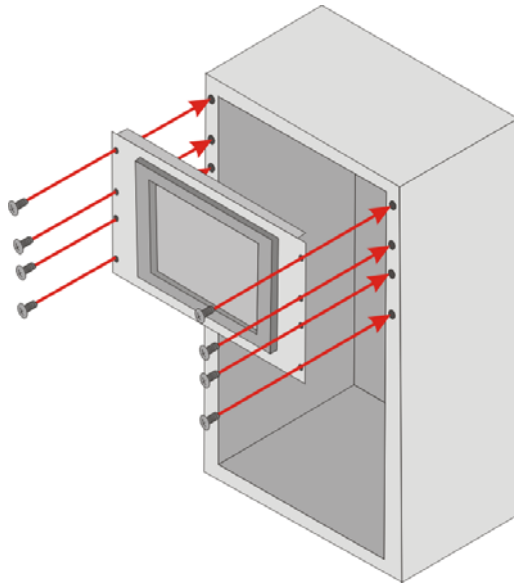

Figure 3-25: Install into a Rack/Cabinet
Step 5: Slide the PPC-F12B/15B/17B-BTi with the attached rack/cabinet bracket into a rack or cabinet (**Figure 3-25**).
Step 6: Once the flat panel PC with the attached rack/cabinet bracket has been properly inserted into the rack or cabinet, secure the front of the rack/cabinet bracket to the front of the rack or cabinet (**Figure 3-25**).